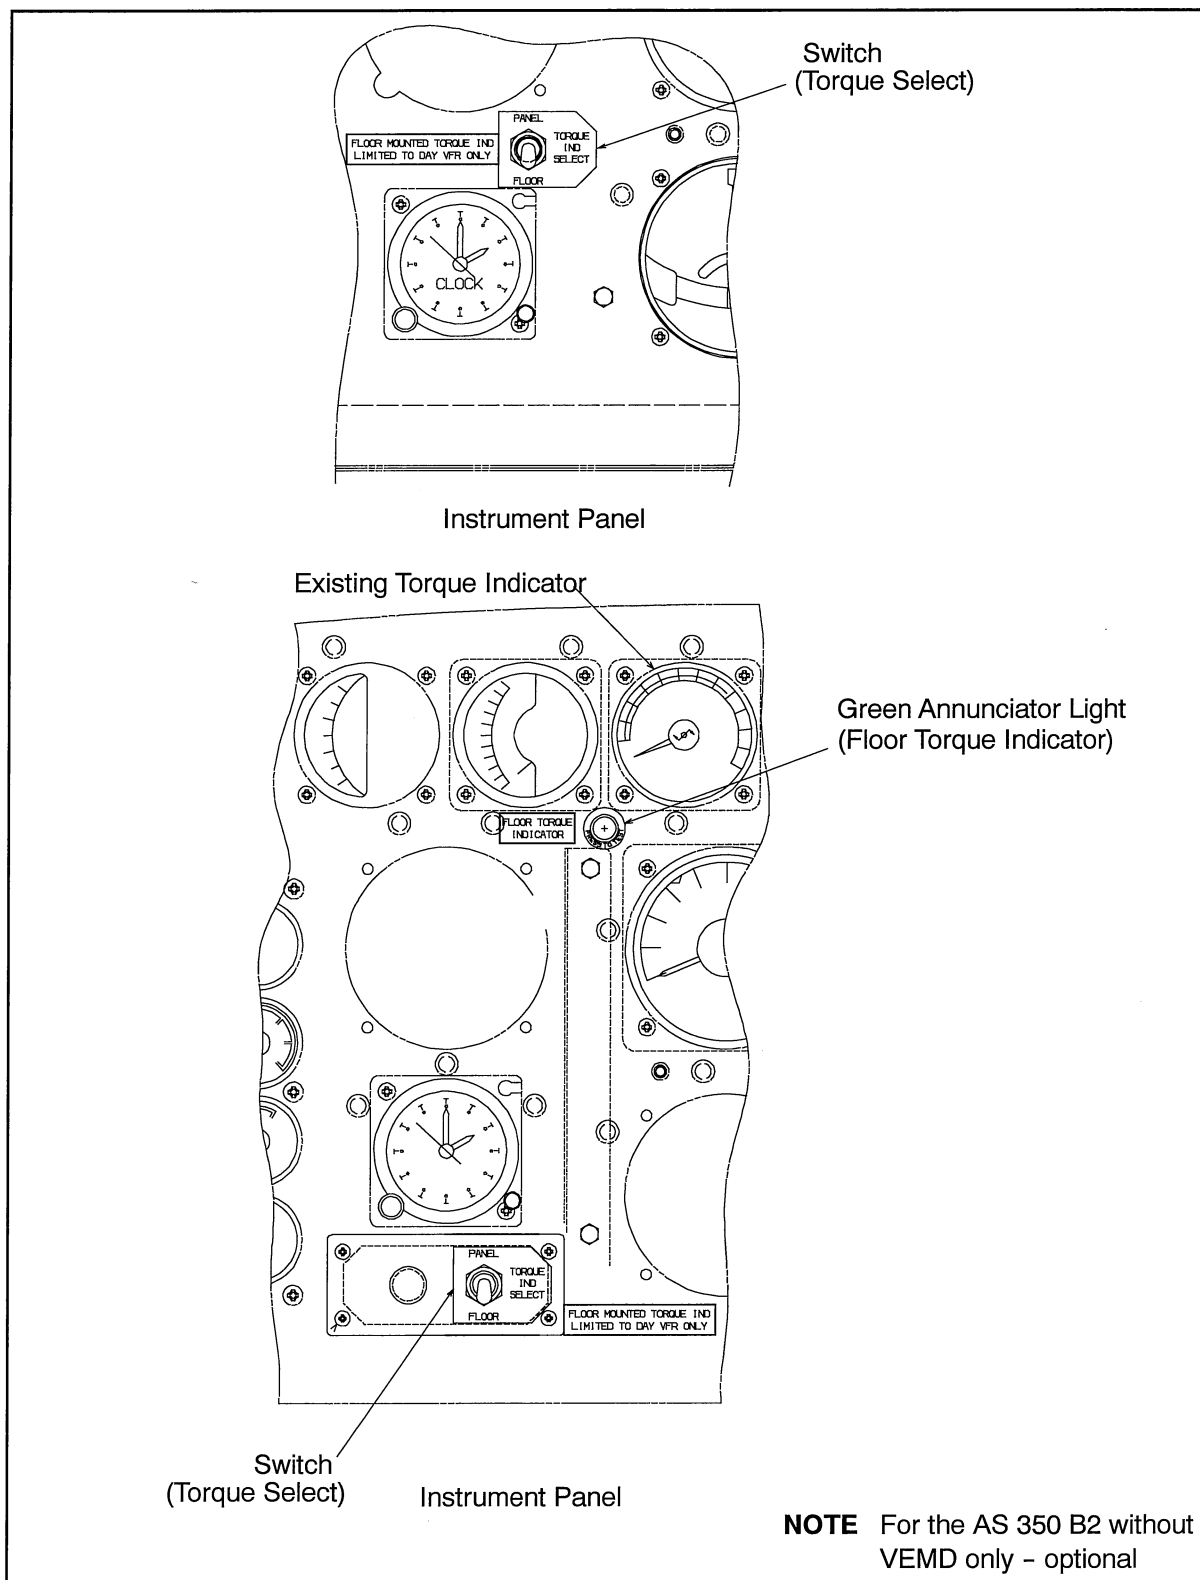

Figure 3 Switch and Annunciator locations for Torque Indicator Option (continued)
Location: Located adjacent to the torque select switch on the Instrument Panel in clear view of pilot. Refer to Figure 3.
2) Floor Mounted Torque Indicator (if installed, refer to Figure 3)